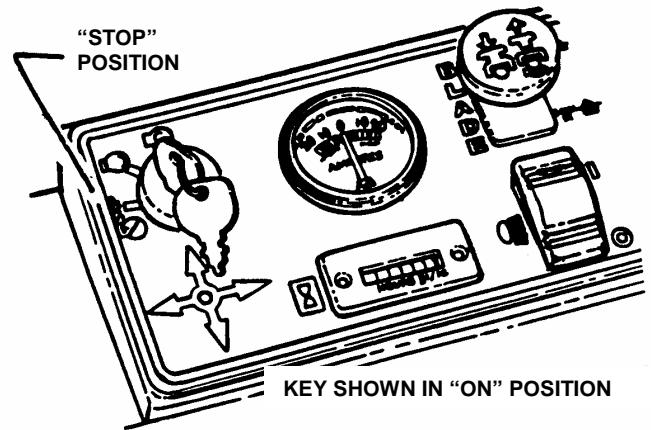

FIGURE 3.5
6. Turn key to the start position until engine starts. See Figure 3.5.
1. Stop engine by turning key to "STOP" position. Move engine speed to the Turtle "SLOW" position and turn key to "STOP". See Figure 3.5.